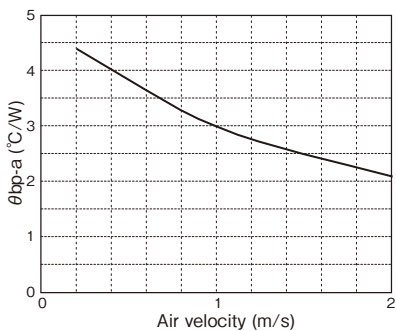
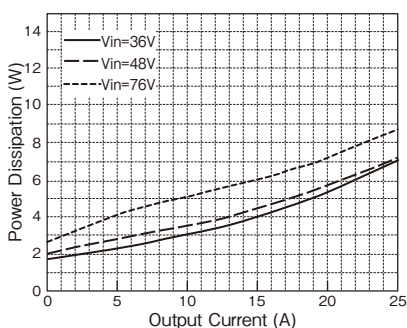

Fig.1-3 Thermal resistance at Baseplate-Air vs Air velocity (typical value)
Fig.1-4 PAQ100S48-1R2/B Power dissipation vs Output Current (Output voltage: Nominal, Ta=60°C; typical value)
Air Velocity is as shown in Fig.1-3.
- 1) Data shown in Fig.1-3 to 1-8 is the typical value and it changes depending on measurement condition. Recommend to design with sufficient margin against calculation value.
- 2) When the condition of input voltage and output voltage are different and it is impossible to determine power dissipation (P_d) from Fig.1-4 to 1-8, calculate power dissipation as follows.
Forced cooling to power module improve radiation capability more than convection cooling. Figure 1-3 indicates thermal resistance value between baseplate and air at standard vertical mounting. For details on standard vertical mounting, refer to "PAQ-S48 Series Instruction Manual" Figure 1-4 to 1-8 indicates power dissipation (P_d) of each models at following condition.